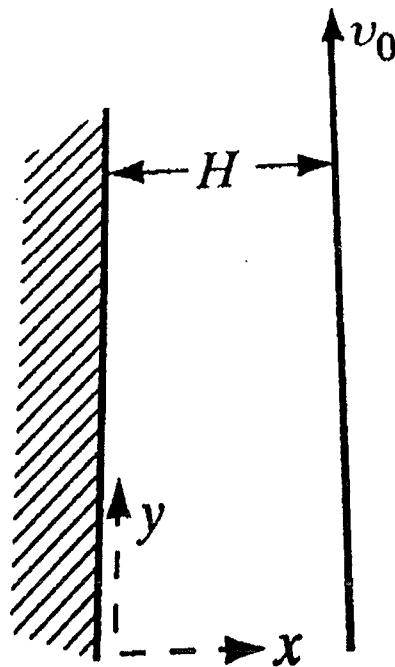

Figure 4 - Flow between vertical parallel plates
- [b] A Newtonian fluid is confined between two parallel and vertical plates as shown in Figure 4. The surface on the left is stationary and the other is moving vertically at a constant velocity v_0 . Assuming that the flow is laminar, derive the velocity profile.